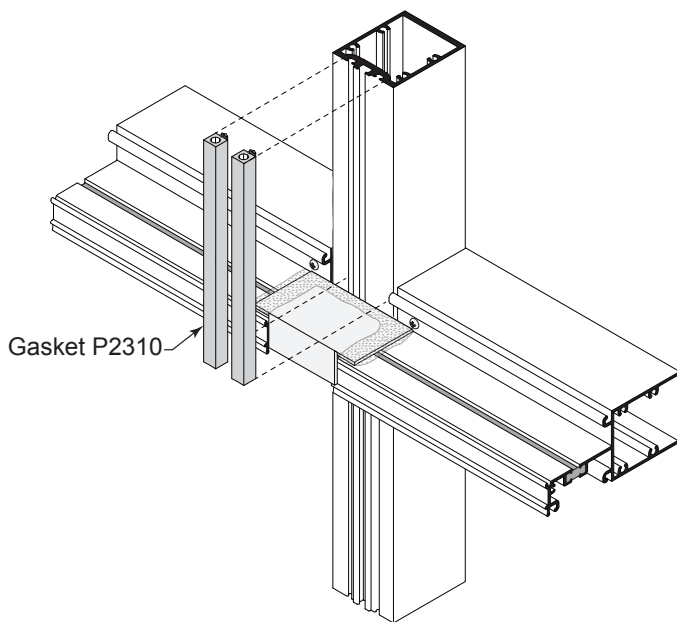

Fig.53.1
- B. Install P2310 gasket onto reglets of the vertical mullion. See **Fig 53.1**